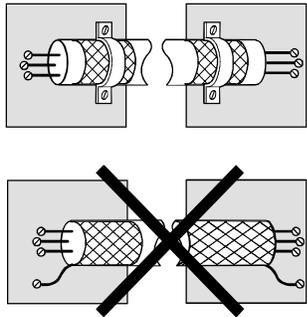

Figure 2. Use Grounding Clamps to Bond the Shield.
- If a footprint EMC filter is used, fit it under the SED2 and ground it via the metal backplate. When connecting the EMC filter to the inputs of the SED2, use shielded cables, and ensure that they are correctly grounded using cable clamps (Figure 2).
- Use shielded cables inside control cabinets. Use only shielded motor and control cables. The shielding must be continuous. Connect motor and control cables to ground at both ends. Avoid pigtailed. Use only grounding clamps to bond the shield (Figure 2).